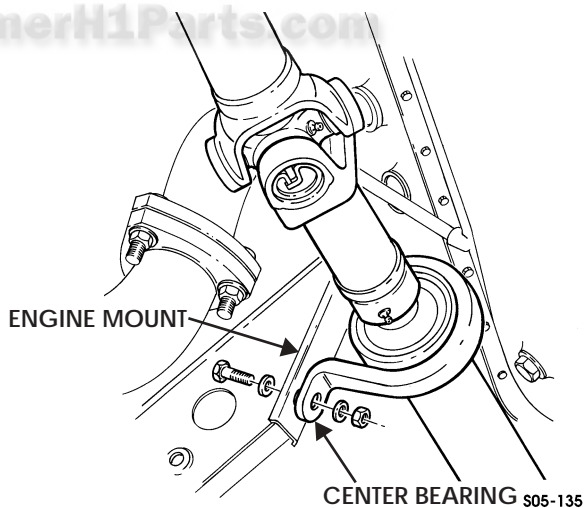

Figure 5-189: Center Bearing
4. Remove two locknuts, washers, capscrews, washers, and center bearing assembly from engine mount. Discard locknuts (Figure 5-189).